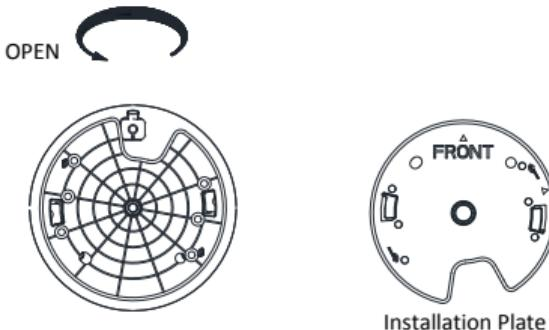

Figure 2-9 Remove the Installation Plate
1. Rotate the installation plate anticlockwise, and remove the installation plate, as shown in Figure 2-9.